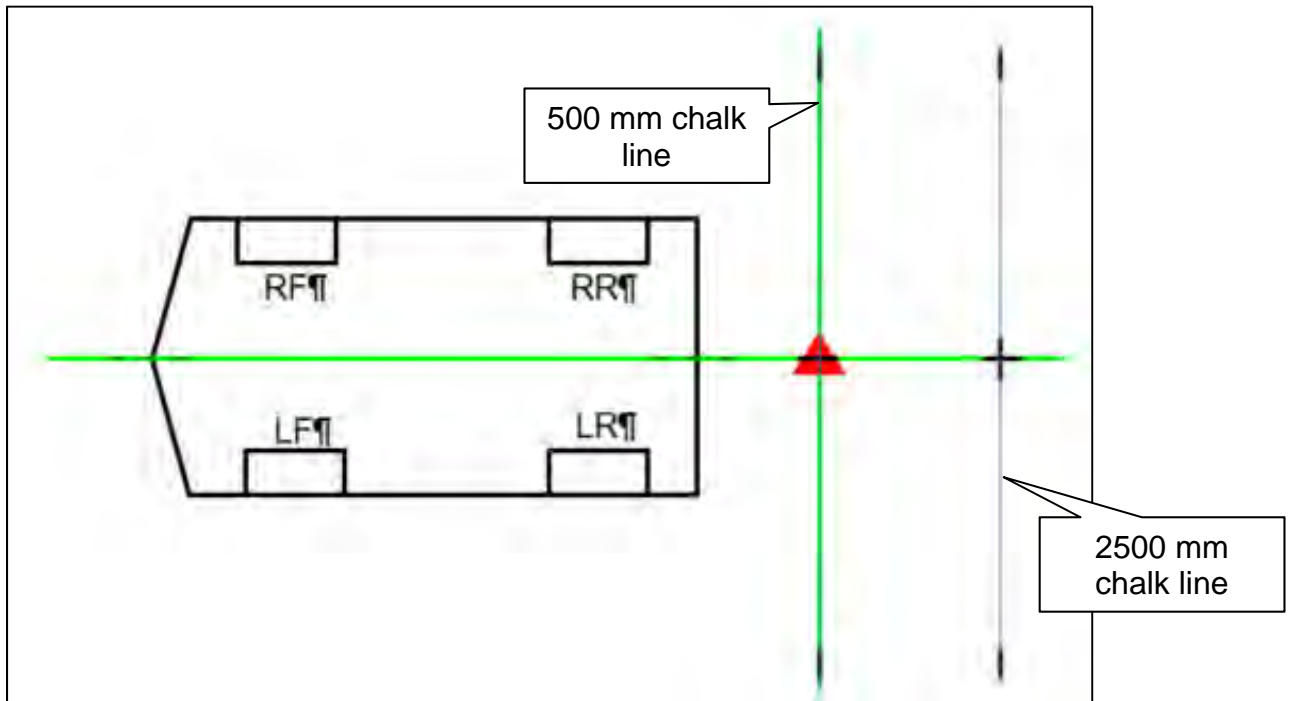

Figure 84
55. Place the laser level with both vertical lines activated, and align one laser line with the 500 mm chalk line and align the other laser line to the front and rear center point of the vehicle, as shown in Figure 84.